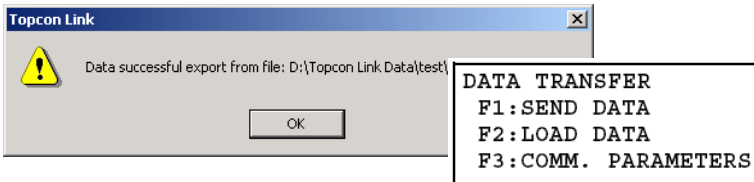

Figure E-7. Successful Export to the Total Station
12. After a successful export, Topcon Link will display a “successful export” message and the Total Station will return to the Data Transfer menu (Figure E-7).